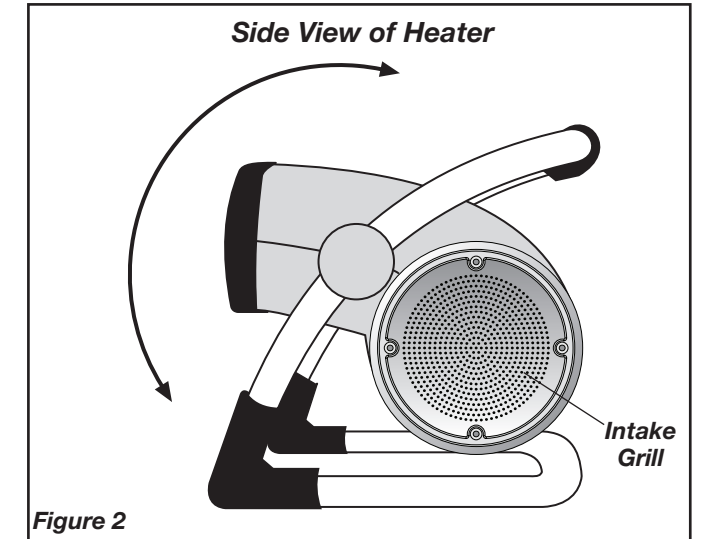

Figure 2
7. Move the **Power Knob** to the desired heat setting. High Heat (1500W) is represented by the (II) and Low Heat by the (I).
8. For Fan Only operation, turn the **Power Knob** to (F).
9. To adjust the angle of the Heater air flow, rotate the Heater body forward or backward to the desired position. (Figure 2)
11. To disconnect Heater, turn **Power Knob** to the "OFF" position (0), then remove plug from outlet.
THERMOSTAT INSTRUCTIONS (Figure 2)